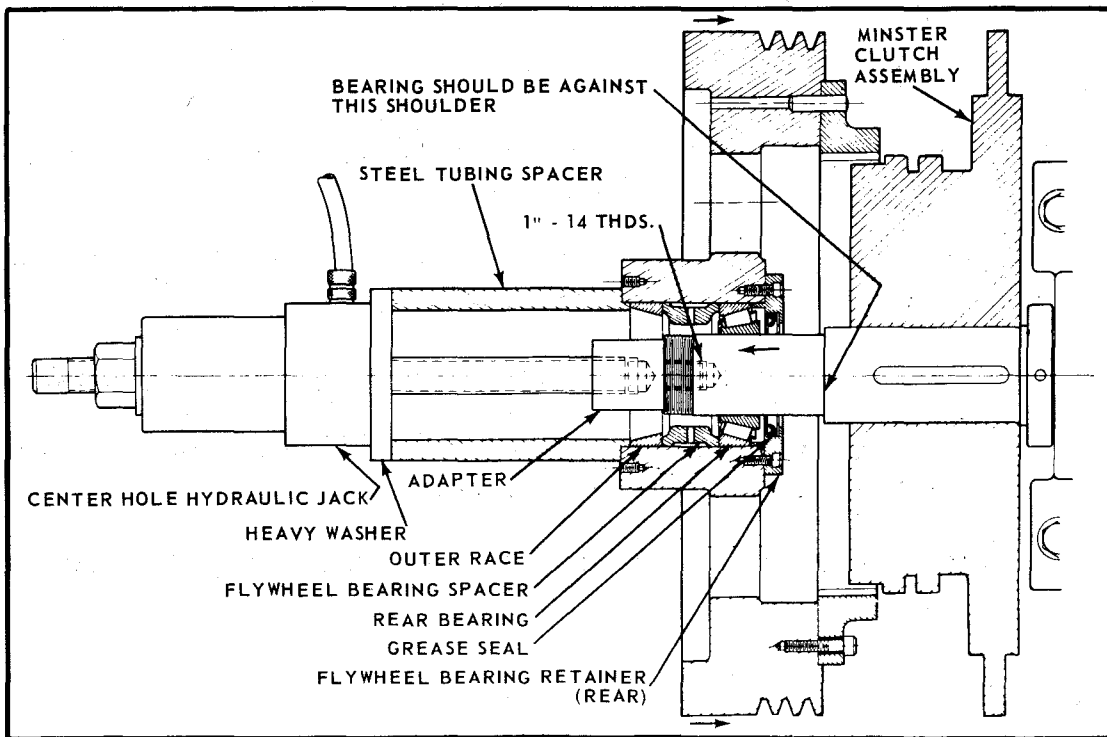

Figure 17
- Step 5. Refer to Figure 17 for suggested method of replacing flywheel.
- Step 11. Push on flywheel assembly using steel tubing spacer and center hole hydraulic jack as shown in Figure 17.